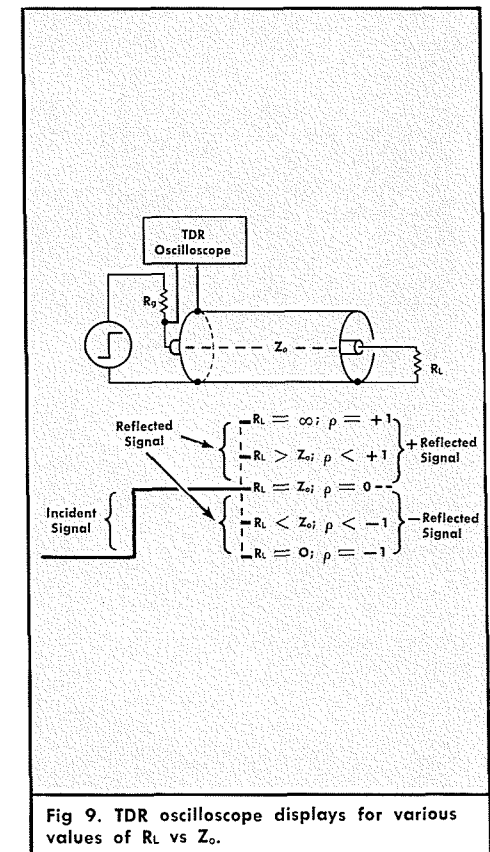

Fig 9. TDR oscilloscope displays for various values of R_L vs Z_o .
A somewhat more convenient method of handling signal reflections than has just been suggested, is to consider the reflection as having been added to or subtracted from the incident pulse. Thus the reflection amplitude is not measured from zero volts, but is referenced to the incident signal amplitude. This permits establishing a ratio between the incident and reflected signals which is called the reflection coefficient, rho (ρ). The value of ρ is simply the reflected pulse amplitude (the display total amplitude minus the incident pulse amplitude) divided by the incident pulse amplitude. Fig. 9 shows the two parts of the display appropriately labeled to identify the incident and reflected signals.
Formula (3) applies to any display that results from a purely resistive load. The load shown in Fig 9 is assumed to be at the end of a lossless coaxial transmission line.